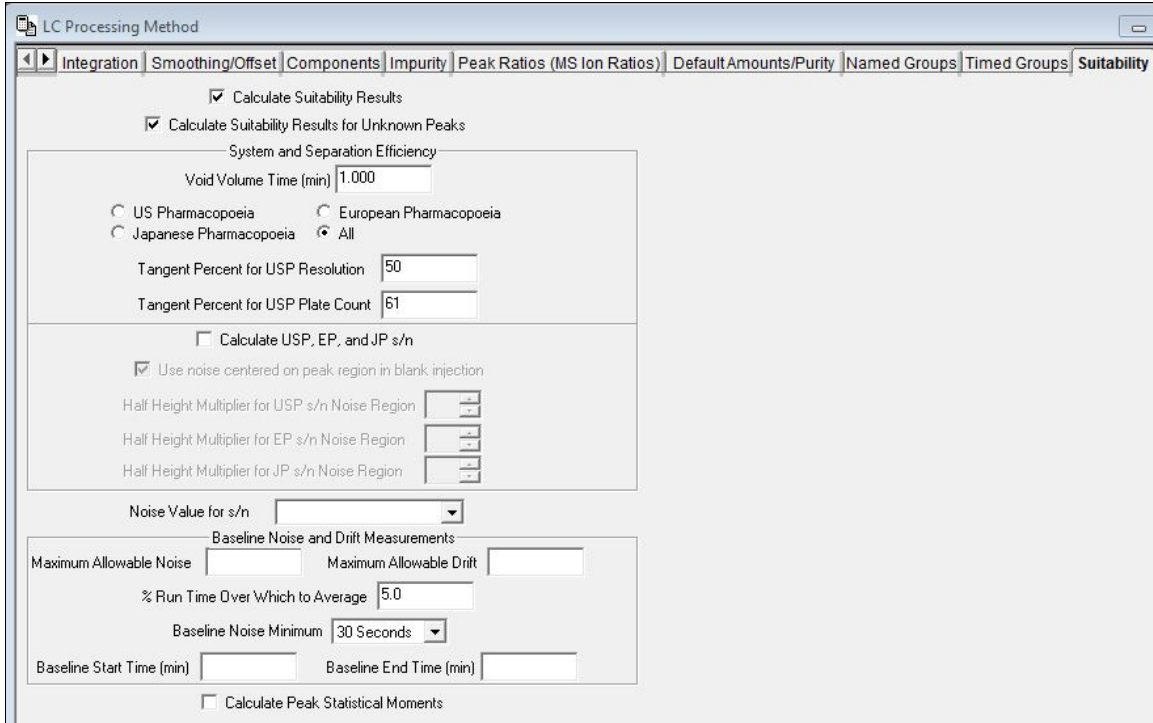

Figure 4 – Selecting All in the Suitability tab to generate correct USP Resolution values
1. Modify and save the processing method. Select **All** as the Pharmacopoeia choice in the Suitability tab (Figure 4).